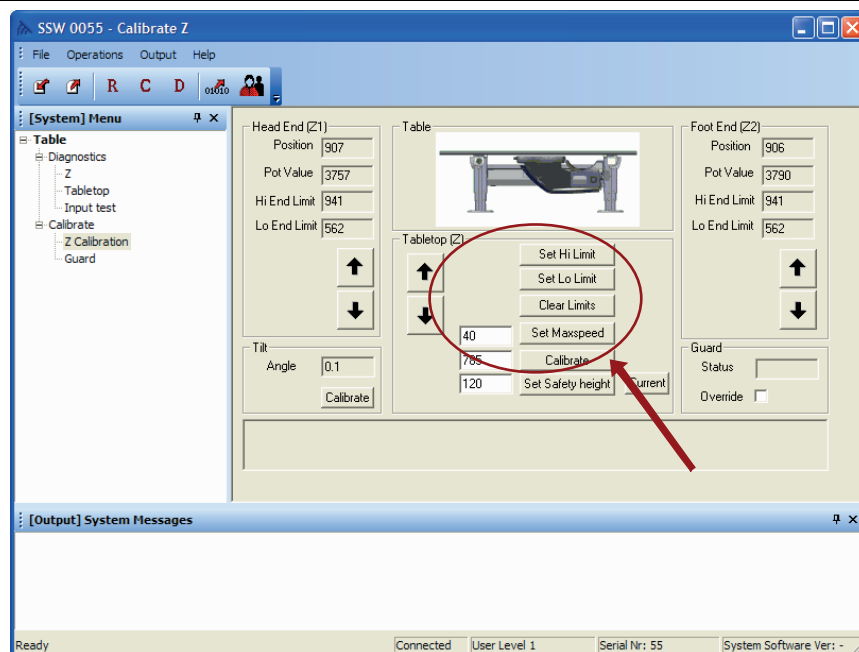

Fig. 4-154 Setting the Table top limits
4. Press the *Clear Limits* button, see Fig. 4-154 *Setting the Table top limits*.